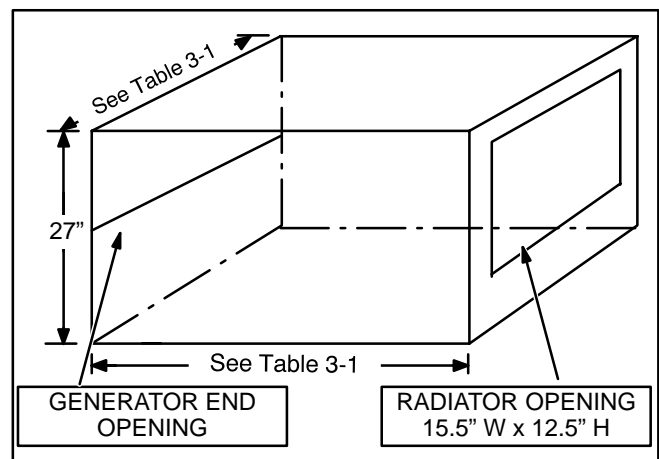

FIGURE 3-3. COMPARTMENT DIMENSIONS
1. Carefully measure the compartment to provide proper clearance for the generator set. Figure 3-3 shows the compartment dimensions. Add 1/2 inch to the compartment depth if 1/2-inch insulation is used inside the door.